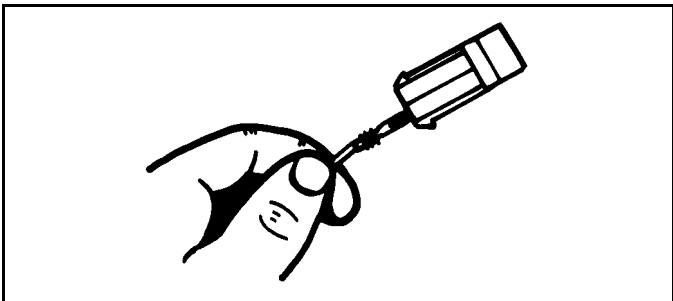

Figure 3-21
7. Push contact into new connector body until fully seated. (See Figure 3-21)